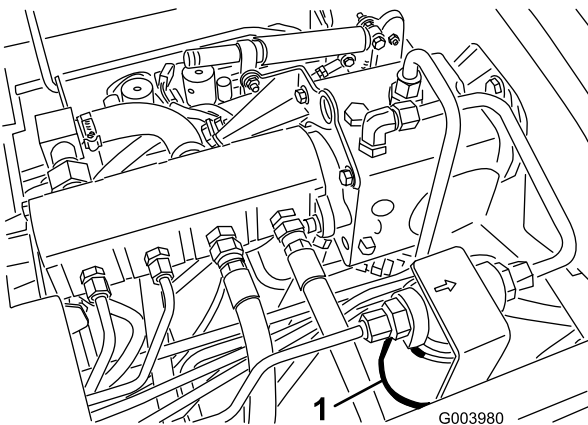
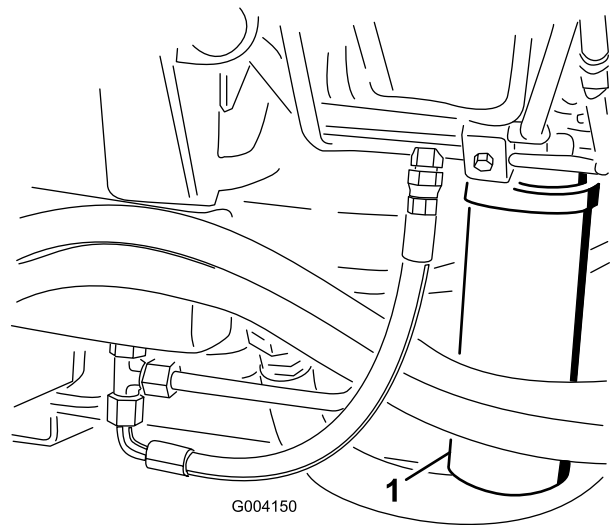

Figure 78
Figure 79
2. Clean the area around the filter mounting area and place a drain pan under filter (Figure 78) and (Figure 79).